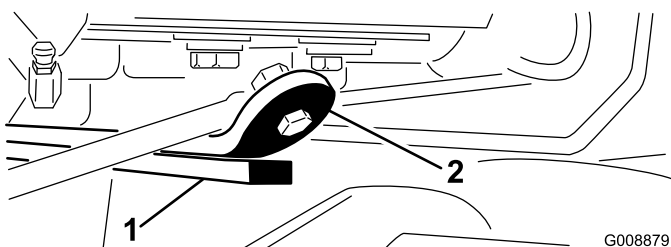

Figure 28
3. Start the engine, raise the lift arms, and check to ensure that the clearance between the wear strap on the top of the rear cutting unit wear bar and the bumper strap is 0.51 to 2.54 mm (0.02 to 0.10 inches) (Figure 28).